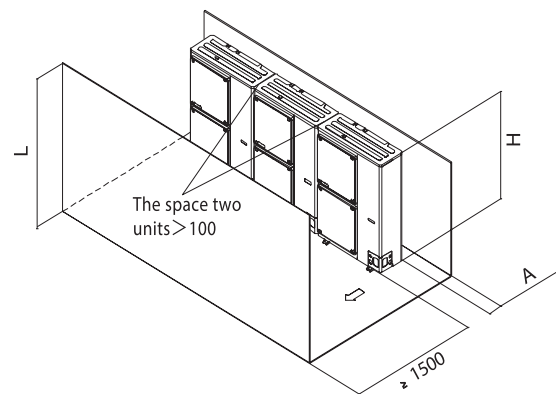

Figure 16
- b. Group units installation (more than two units)(see Figure 16)